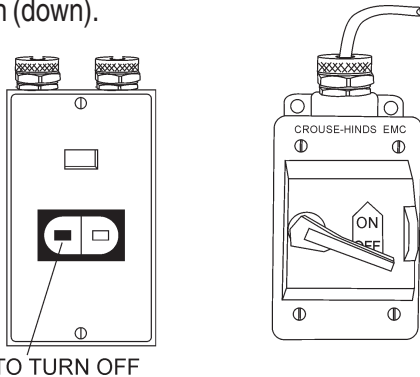

Figure 11. Power ON/OFF Switch (OFF)
1. Place the power **ON/OFF** switch (Figure 11) in the **OFF** position (down).